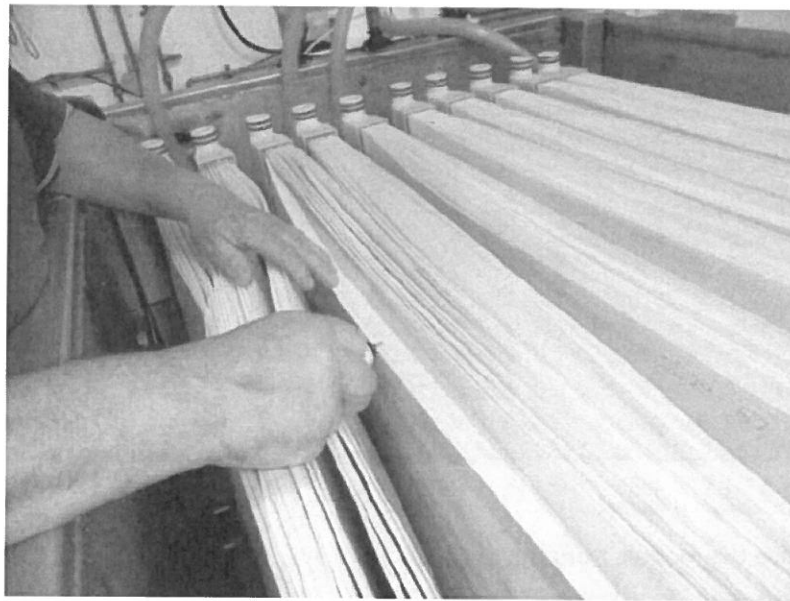

Figure 4-59. Applying UV adhesive
5. Apply and spread evenly a small bead of UV adhesive to the fault, as shown in Figure 4-59.